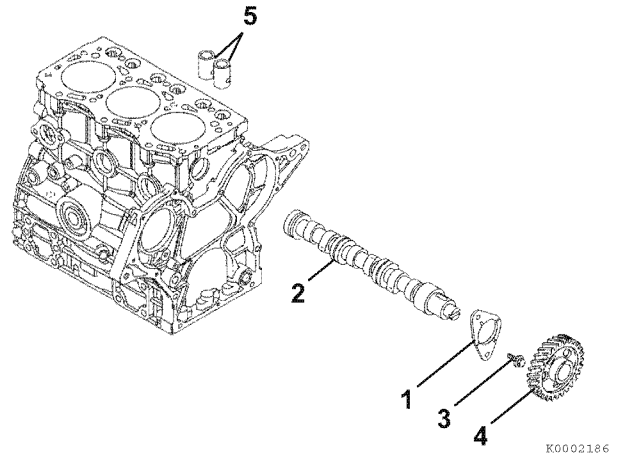

Figure 6-98
1. If removed, reinstall the camshaft end plate (1, **Figure 6-98**), key, and camshaft gear (4, **Figure 6-98**) onto the camshaft using a press.
2. Lubricate the camshaft (2, **Figure 6-98**) with clean engine oil or assembly lube. Slowly insert the camshaft through the front of the engine.
3. Reinstall and tighten the cap screws (3, **Figure 6-98**).